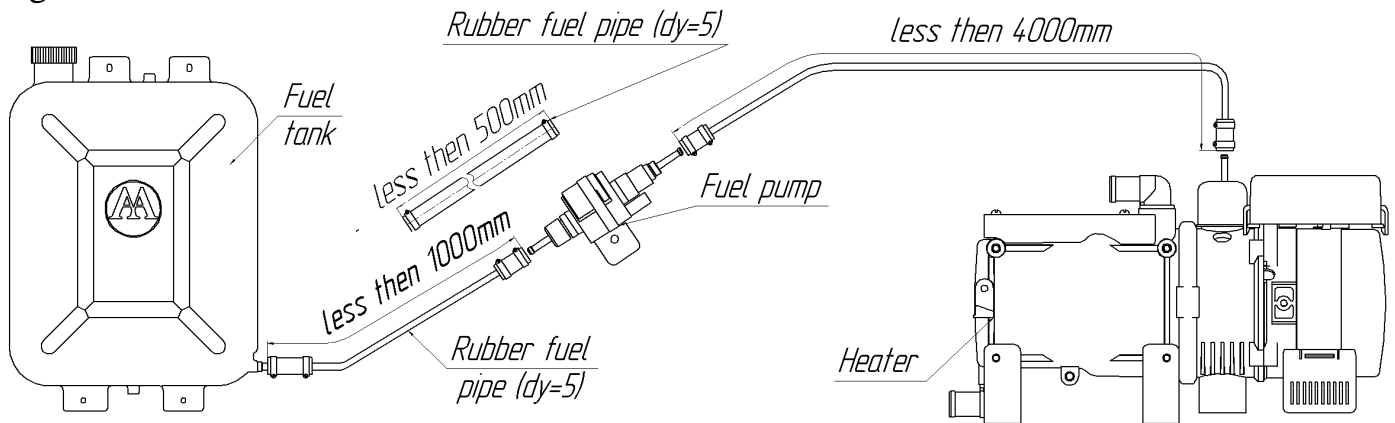

Figure 9. Diagram of connection fuel line with the pre-heater
10.6.1. It is advisable to install fuel pump close to the fuel tank and lower fuel level in the tank. To provide this recommendation it's possible to disconnect fuel pump from the heater and cut rubber pipes to pieces less than 70 mm length and use the as connecting pipes. It is necessary to improve the harness to the fuel pump from the control unit that is to change connector and use extender. Connect fuel pump, fuel supply line and fuel tank according to figure 9.